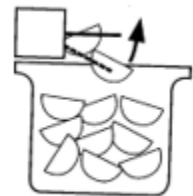

FIGURE 2
- The ice making function may be temporarily stopped by raising the metal arm to the upright position (see figure 2).